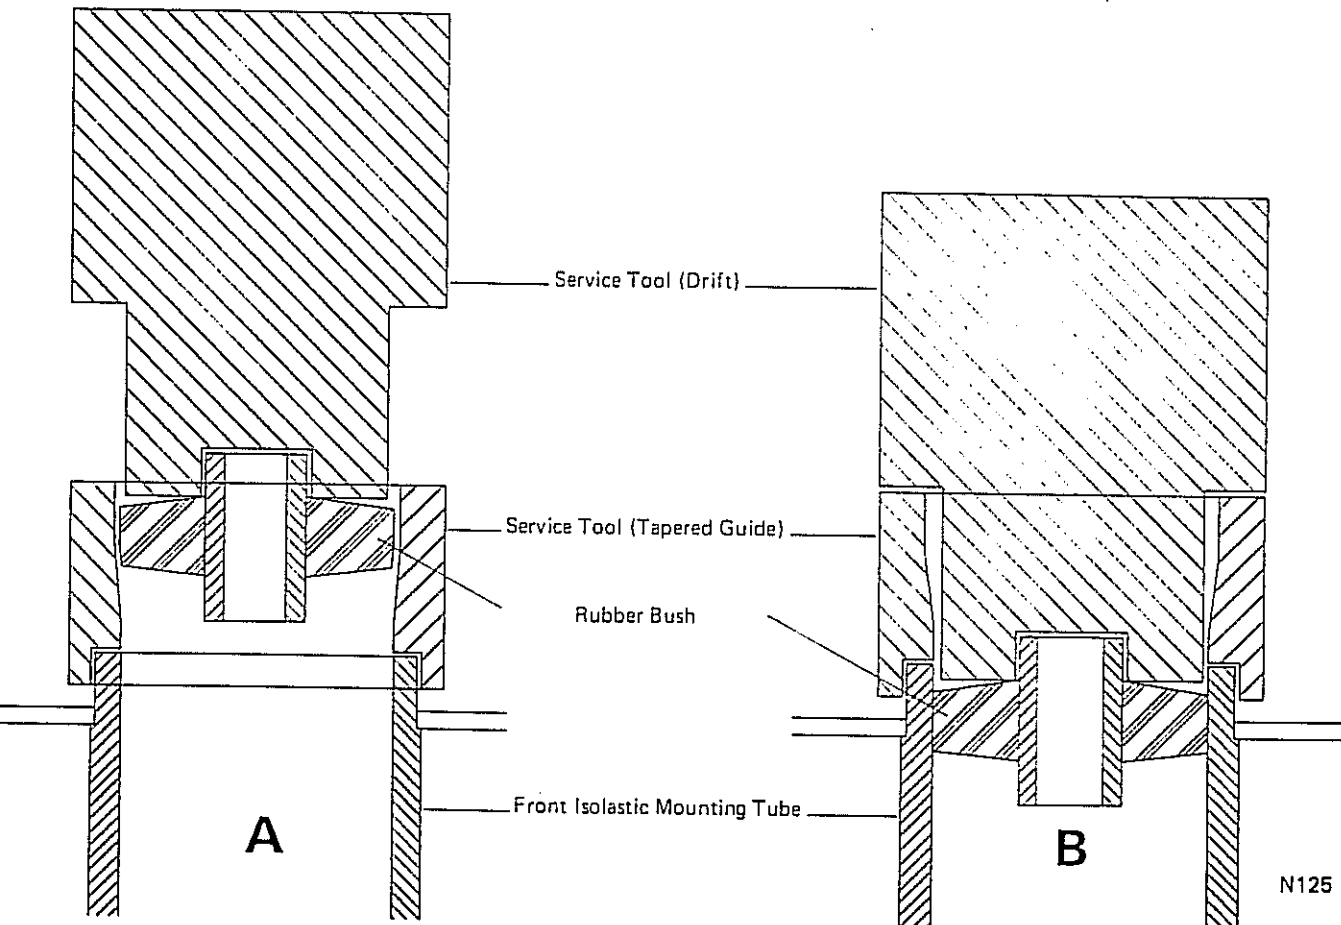

Fig. F14 Using service tool 063971 to insert front isolastic rubber bushes
- 5 Reassemble the gaiter, spacing collar and shims after attention, in the order shown in *Fig. F14*. Note that the reassembly procedure is a reversal of that used in dismantling but take care to fit the cap with shims well over the actual mounting to allow room for the gaiter, spacing washer and plastic washer to be fitted together.
- 8 Assemble the front mounting less shims in a plain jawed vice. The order of assembly is shown in *Fig. F14* and the method of holding the mounting in *Fig. F13*.
- 15 Fit the right side cap shims, gaiter etc. first (the order of assembly is shown in *Fig. F14*) and ensure that the lip of the gaiter fits well over the mounting.
problems. Removal does not necessitate the use of special tools though reassembly requires the use of special tool 063971. Proceed to remove as below but refer to *Fig. F14* for the positions of bushes and buffers.